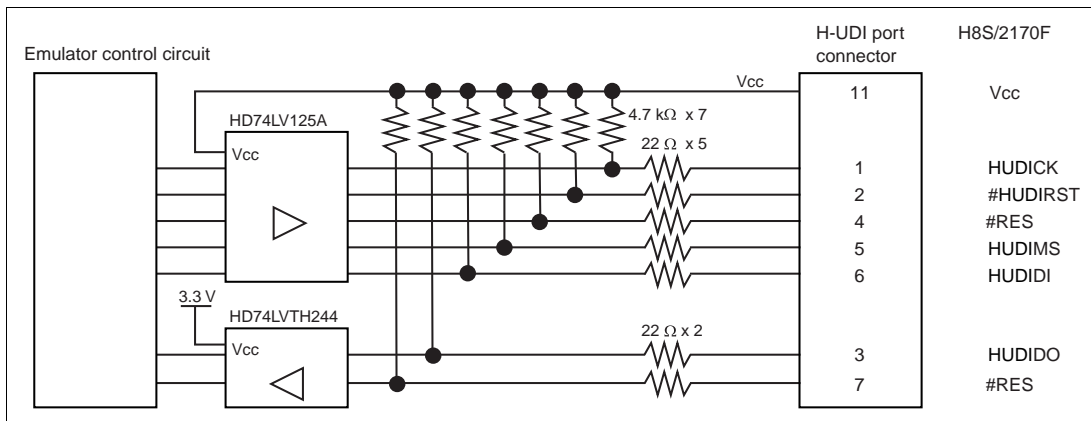

Figure 6.7 Interface Circuit in the Emulator (Reference)
7. **Figure 6.7 shows the interface circuit in the emulator. Use this figure as a reference when determining the pull-up resistance value.**